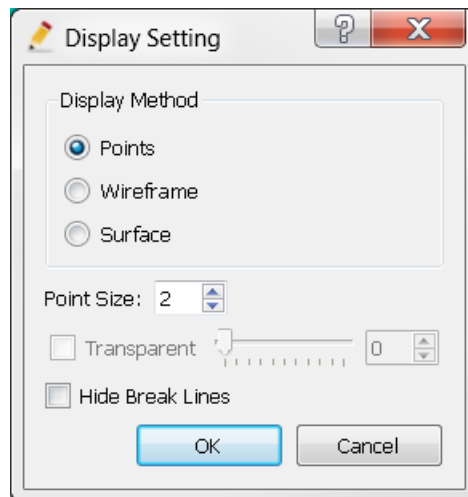

Figure 3. Display Setting dialog to select graphic attributes for the Elevation data
- To adjust how the elevation points are displayed, highlight Elevation | Points1 in the **Object Browser** and right click. This will bring up a dialog that allows you to rename the data in the Object Browser, Export the data, Delete the data, and adjust properties. Select properties and change the point size to 2 (Figure 3).